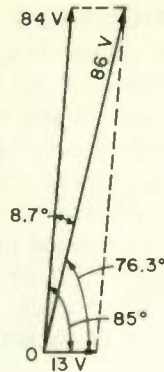

Fig. 29
1. (a) 86 V... See Fig. 29. First draw a line 13 units long, then use your protractor to draw a line at 85° to the 13-unit line. Mark off 84 units on the second line. Now you have two series a-c voltages 85° apart represented by phasors. By the parallelogram method, draw the dashed lines parallel to the two original lines. Next, draw the resultant from O to the intersection of the two dashed lines. The resultant line is 86 units long.